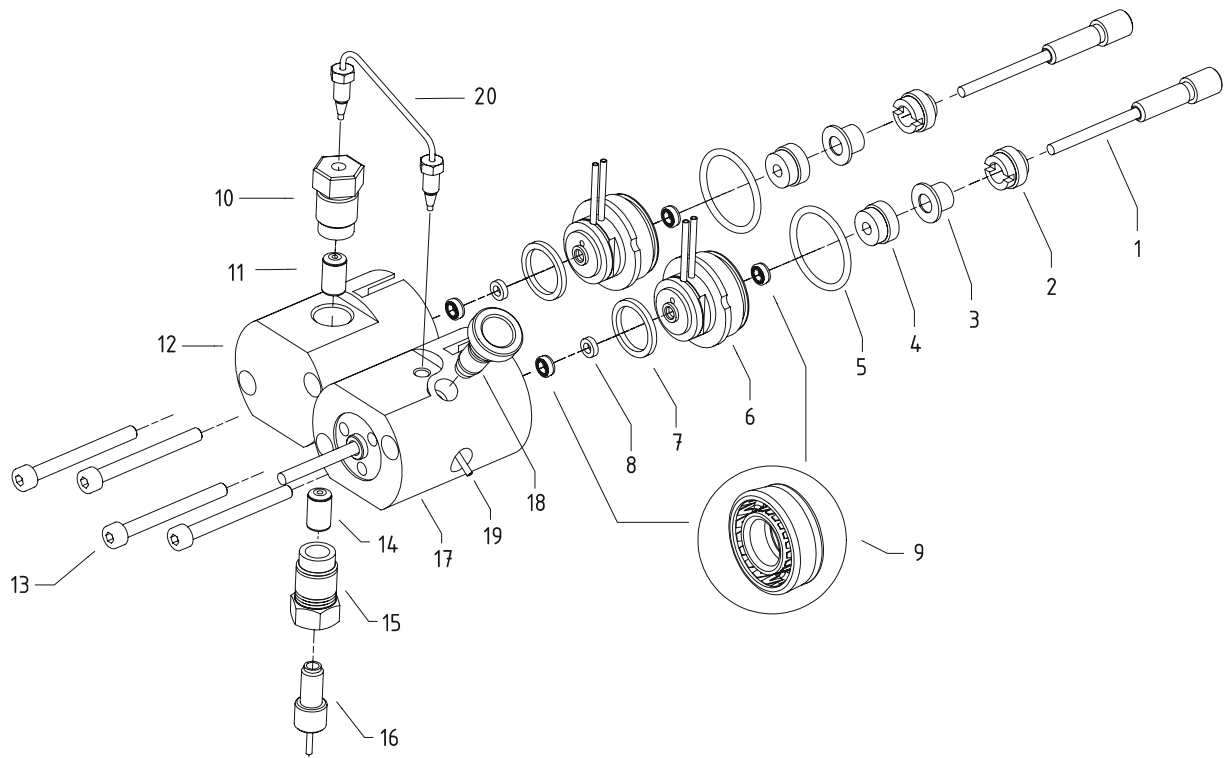

Fig. 44: Pump heads, pistons, and piston seals
- Insert the new valve cartridge. Make sure you insert the cartridge in the direction of solvent flow direction, as indicated by the arrow on the cartridge (→ Fig. 44). Tighten the valve.
- Remove the bushing with draining device (→ Fig. 44, no. 3) from the piston unit (→ Fig. 44, no. 1), using the extractor from the pump's accessories kit (→ Fig. 50 and Fig. 51).
- Loosen the piston retaining screw (→ Fig. 44, no. 2), using the flat-blade screwdriver (provided in the accessories kit). Move the piston forward, toward the front cover of the pump, and remove it from the enclosure.
- Use a disassembled piston to remove the piston seal from the pump head (→ Fig. 44, no. 9). On the working head (with valve cartridges), use a dummy plug (FS-8, part no. 6000.0044) to close the outlet valve. On the equilibration head, close the boreholes with dummy plugs. Insert the piston tip into the piston seal. The pressure loosens the seal. If you cannot remove the piston seal in this way, use an M4 screw; for example, the one used for holding the pump heads. Insert the screw into the seal. Remove the seal. This procedure destroys the piston seal!
- To remove the piston seal that is installed in the rear seal chamber, remove the retaining screw (→ Fig. 44, no. 4) on the rear of the pump head bushing first, using the flat-blade screwdriver that is provided in the accessories kit. Then, remove the seal. Use the piston to push the piston out of the bushing.